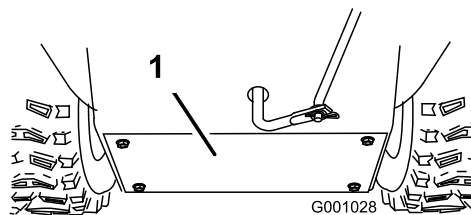

Figure 53
3. Remove the back cover (Figure 53).